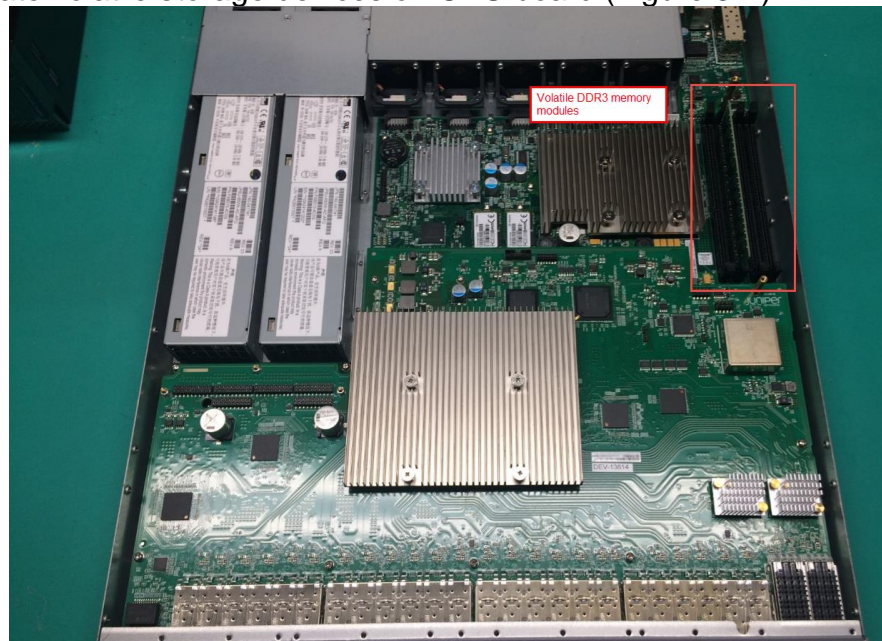

Figure 3-7: Locate volatile storage devices on CPU board
9. Locate volatile storage devices on CPU board (Figure 3-7).